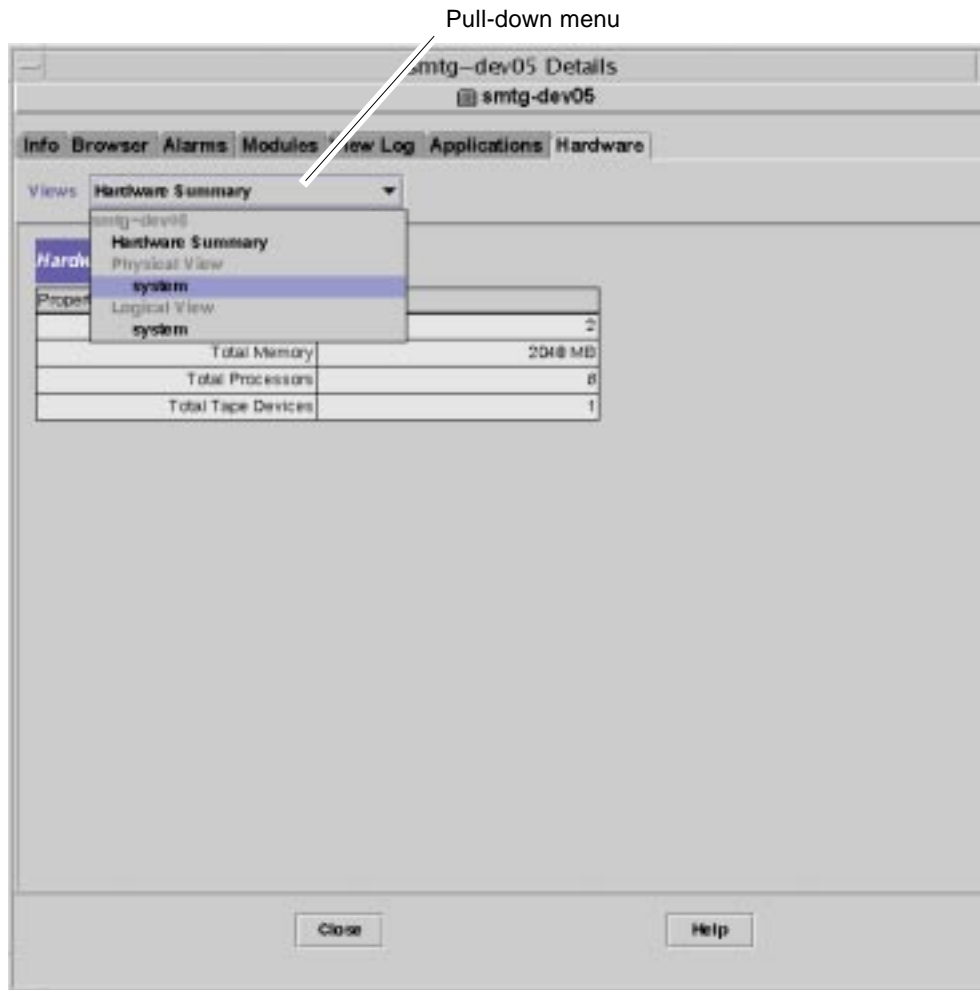

FIGURE 2 Pull-Down Menu in the Hardware Tab
1. **Open the Views pull-down menu (FIGURE 2) and select one of the system views.**